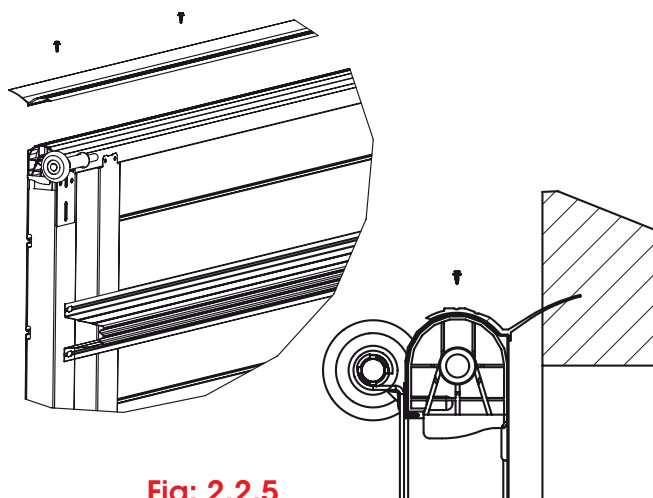

Fig: 2.2.5
- h) Once you have finished assembling the middle panels, fit the PFI Seal (if included) to the top panel as shown in Fig 2.2.5 or alternatively fit the seal to the lintel. The fixing points should be spaced at 300 - 400 mm centres.